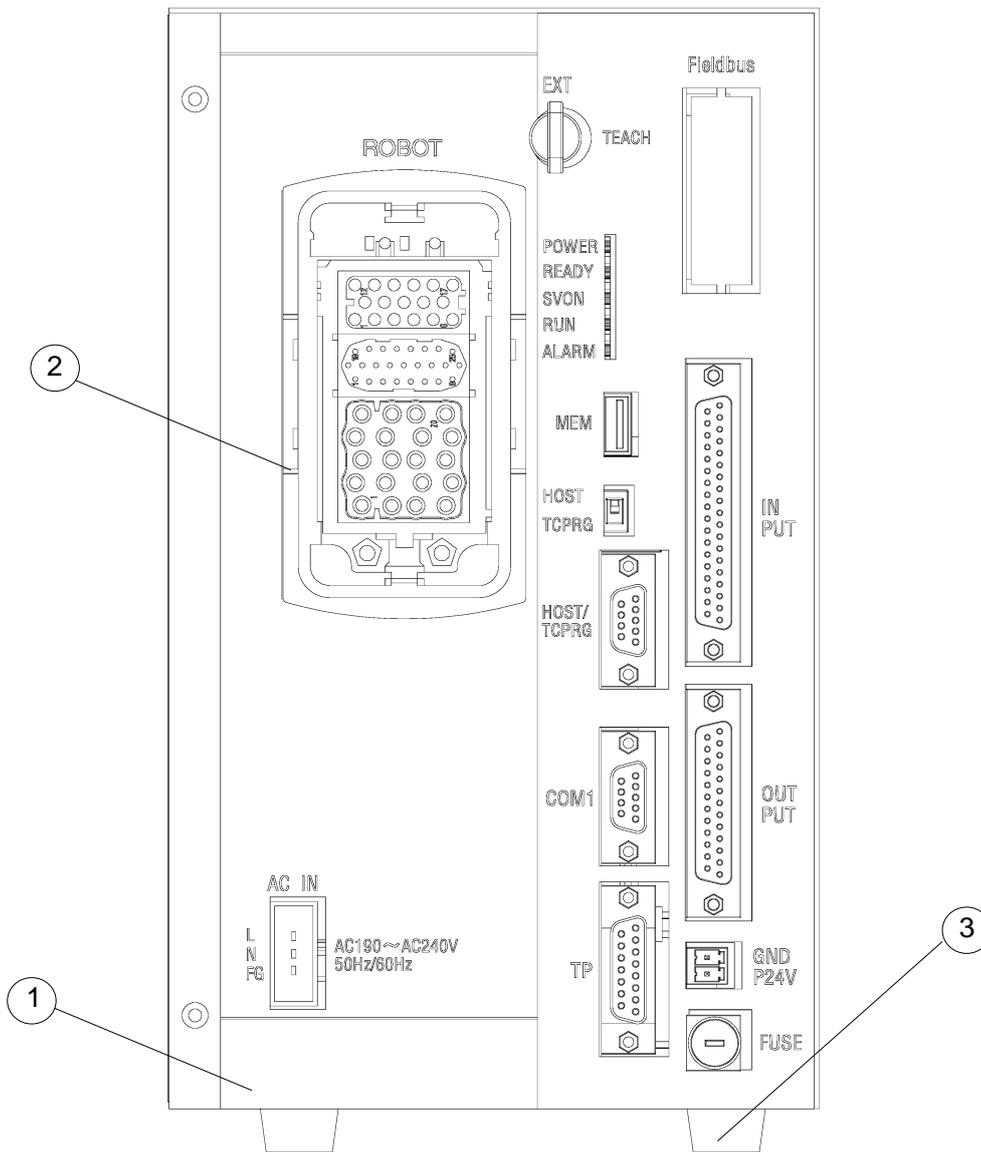

Fig. 8.1 Robot controller connector arrangement (KSL3000)
The cables connected to the robot controller are shown in Fig. 8.1.
(① of Fig. 8.1) (Plug connector attached)
8.1.3 Connecting the Motor Cable "ROBOT" (Ⓜ of Fig. 8.1) (KHL-300 to KHL-700)
8.1.4 Connecting the Encoder Cable "ROBOT" (② of Fig. 8.1)
8.1.5 Connecting the Robot Control Signal Cable "ROBOT" (② of Fig. 8.1)
8.1.6 Connecting the Brake Signal Cable "ROBOT" (② of Fig. 8.1)
8.1.7 Connecting the External Input/Output Power Cable "GNDP24V" (③ of Fig. 8.1)